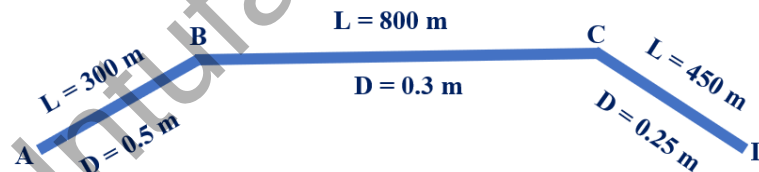

Figure 9(b)
- b) Find the equivalent pipe of 35cm diameter pipe for the network shown in the figure 9(b) using Darcy's and Hazen-William formula [7]